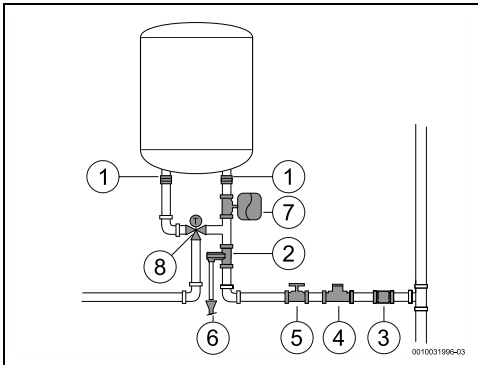

Fig. 13
- ▶ install a reduce valve (Fig. 13, [4]). The pressure relief valve is always triggered once the water pressure in the tank exceeds 8 bar (± 1 bar), and the discharge water then needs to be channelled off.
- ▶ install an expansion vessel (Fig. 13, [7]) to avoid opening the pressure relief valve so frequently. The volume of the expansion vessel must be equivalent to 5% of the appliance volume.